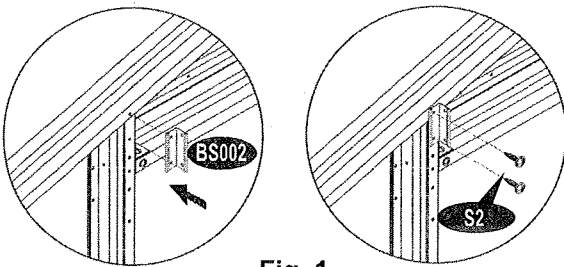

Fig. 1
11. Fix the bracket shutter runner left and right (BS002) with (S2) screws. See fig. 1.